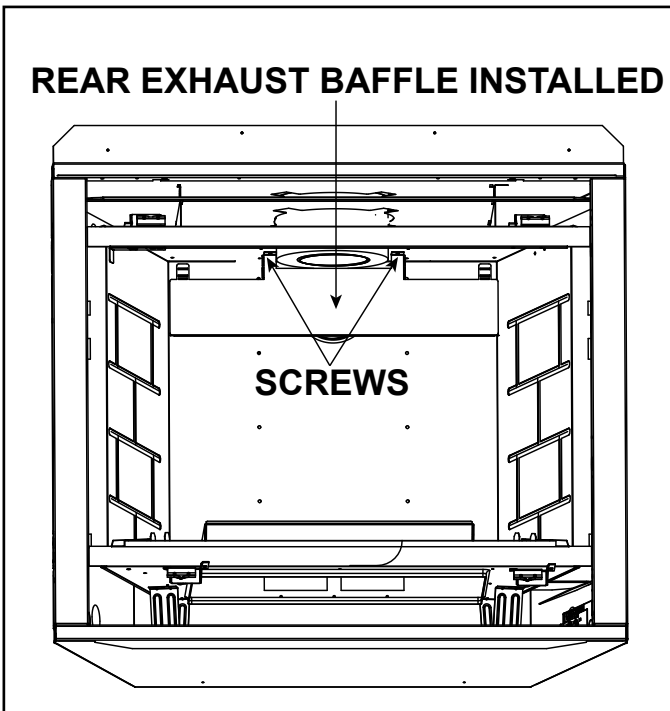

Figure 9. Rear Exhaust Baffle Installed
8. Remove the existing rear baffle by removing two screws indicated in Figure 9.
11. Install and secure new rear exhaust baffle with two screws as shown in Figure 9.